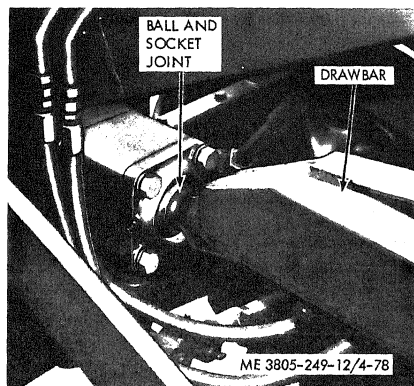

Figure 4-78. Drawbar ball and socket joint.
(2) Clearance should be 0.010 to 0.062 inch. Rotate the blade through a complete cycle, checking the clearance at each 90 degrees of rotation.
(3) Remove the shoe bolts and remove or add shims to adjust the clearance. Replace the shoes if proper adjustment cannot be obtained.
(4) Install the bolts and again check the clearance.
(5) Lower the blade to the ground and inch the machine forward to put a light load on the front shoes.
(6) Measure the distance between the OD of the pinion and the machined ID of the circle. Distance should be 1.90 to 1.92 inches.
(7) If the distance is less than 1.90 inches, replace the front shoes and perform (1) through (4).
(8) Loosen the locknut on the rear shoe adjusting screws.
(9) Turn the adjusting screws to move the toe of each rear shoe against the circle. If the shoes will not contact the circle, replace the shoes and perform (1) through (4). Back off the adjusting screws 1/3 turn and tighten locknuts.
(10) Check the clearance between the rear shoes and the ID of the circle. With a light load on the front shoes, clearance should be 0.030 to 0.090 inch. If necessary, adjust the shoes with the ad-
(11) Rotate the circle a complete revolution and check for free movement.
b. Circle Drawbar Ball and Socket Adjustment. Refer to figure 4-78.